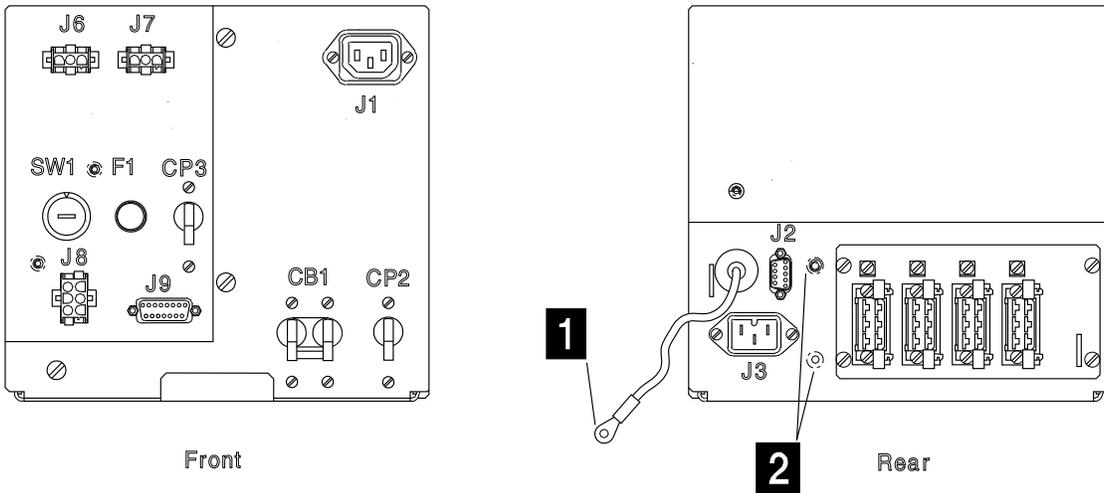
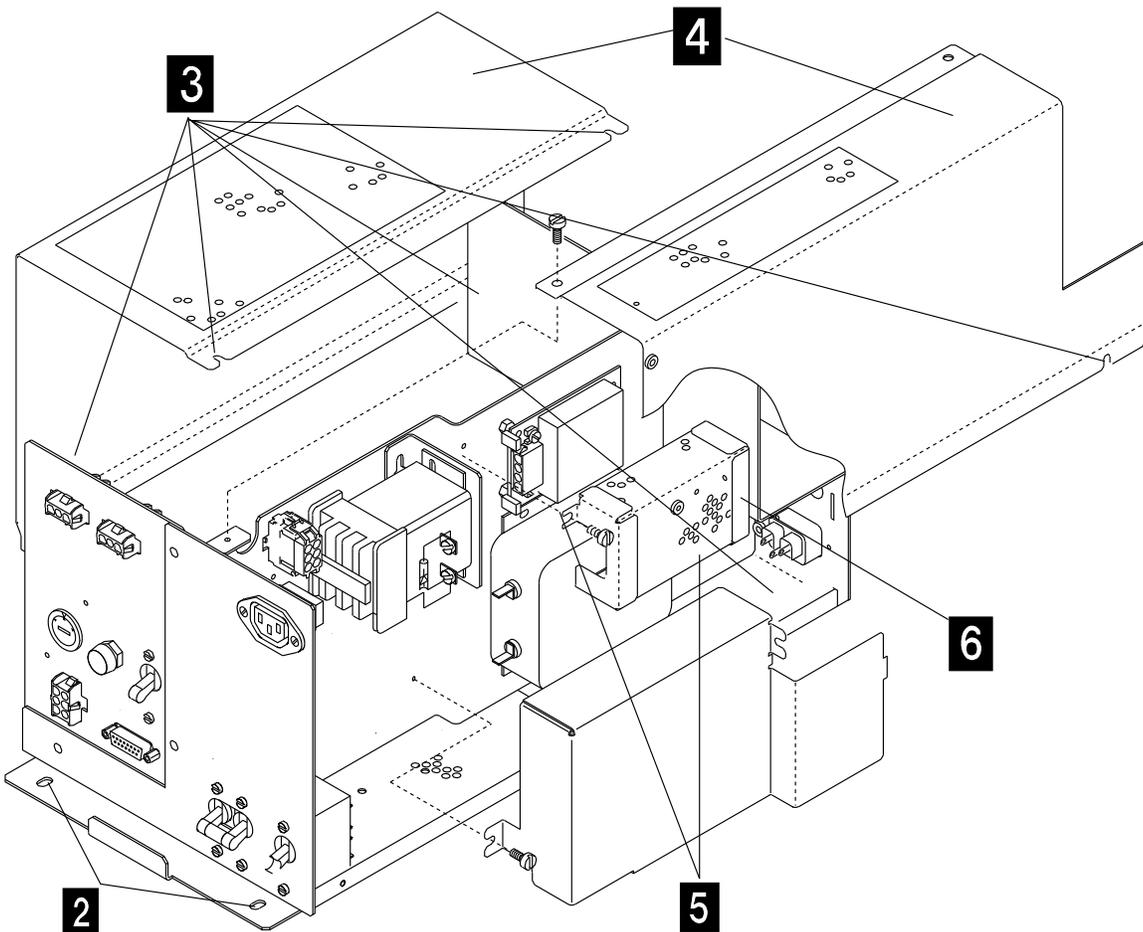

Figure 4-95. Cable Locations on Primary Power Box
Figure 4-96. PS2 in Primary Power Box
7. Refer to Figure 4-95 and to Figure 4-96 on page 4-70 .